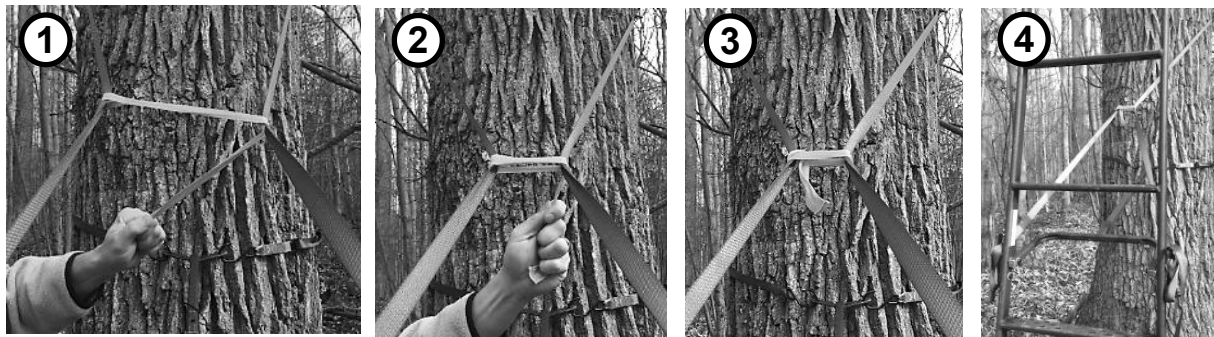

Figure 26
STEP 8: Wrap yellow tension strap (#26) around both stabilizer straps and pull tight drawing stabilizer straps together. Wrap tension strap around drawn stabilizer straps 3 to 4 times and tie off tension strap so it will not loosen (see Figure 26).